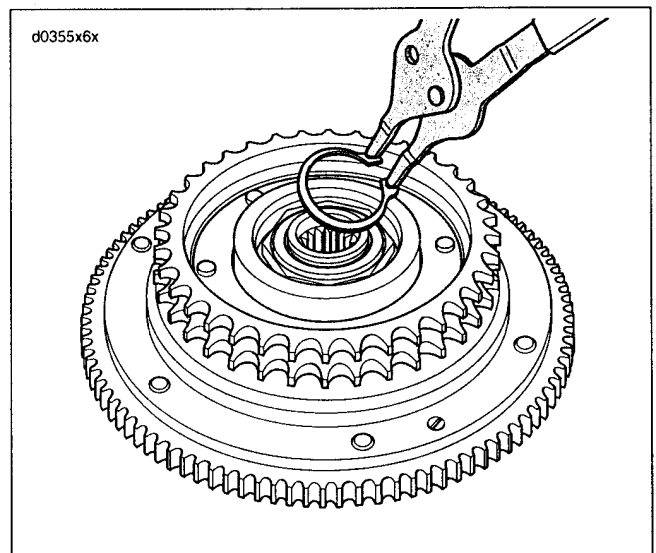

Figure 6-19. Clutch Hub Retaining Ring
2. See Figure 6-19. With the sprocket side up, remove retaining ring from clutch hub groove.
4. See Figure 6-19. Turn assembly over so that the sprocket side is up. Install retaining ring in groove of clutch hub.